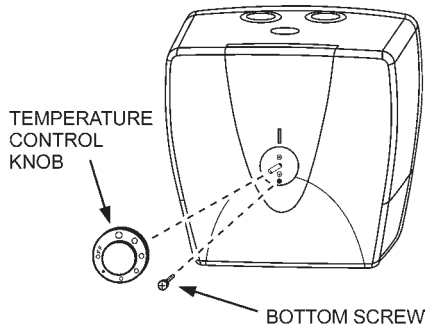

FIGURE 8.
- Using a Philips screwdriver, unscrew the bottom screw securing the outer door, see Figure 8.